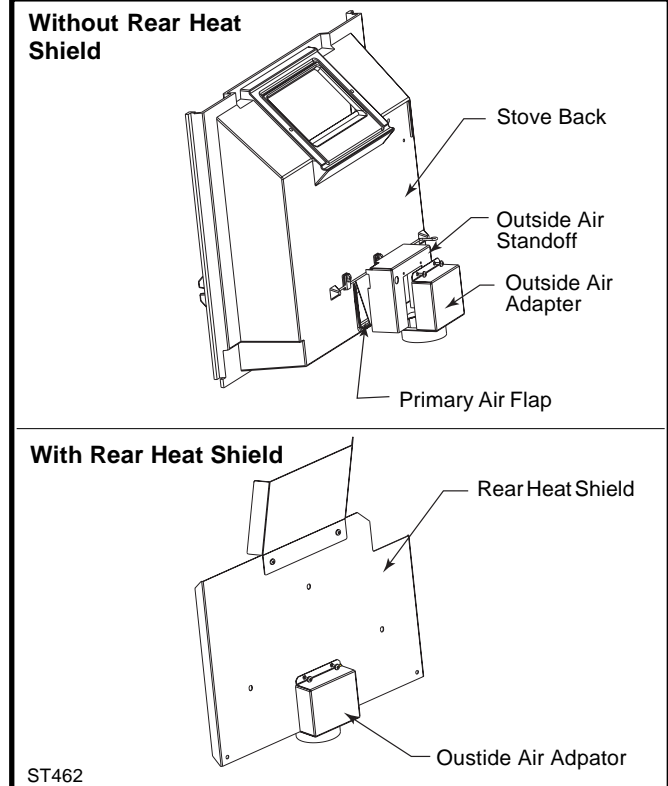

Fig. 26 Outside Air Adapter options.
1. Engage the Adapter against the Air inlet opening in the Rear Heat Shield. Align clearance holes in the adapter with pilot holes in the Rear Heat Shield as shown at the bottom of Figure 26.
2. Engage the Adapter against the air inlet opening in the Outside Air Standoff. Align clearance holes in the adapter with pilot holes in the Standoff as shown at the top of Figure 26.